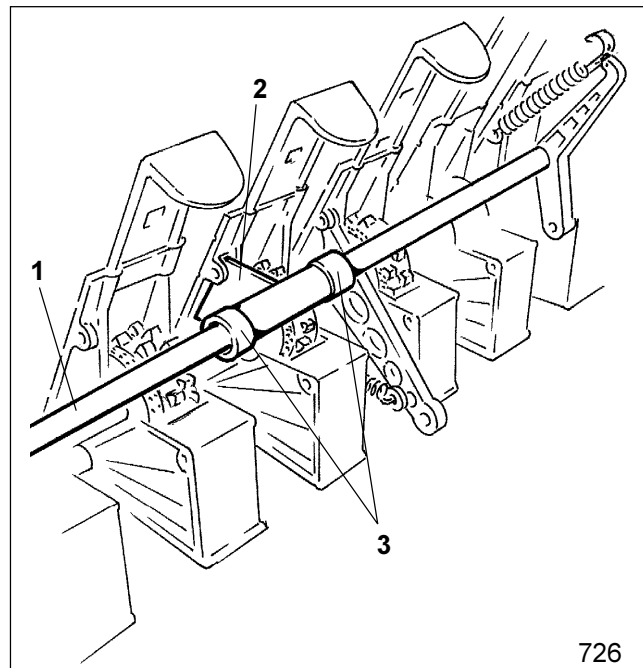

Fig. 18.29
- Swing upwards the counter shaft (Fig. 18.29/1). At the same time slide the carrier bracket (Fig. 18.29/2) which secures the counter shaft from axial movement, into the hole of a seed housing. Axially secure the carrier bracket by using the sliding setting rings (Fig. 18.29/3).